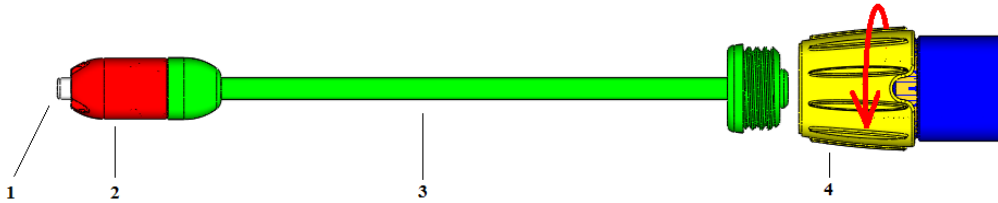

Figure 7
3. Then press vertically on the Multi Taps handle until the activators (1, Figure 7) moves, thereby opening the valves Figure 5 A.
The dispense unit consists of 4 main parts, see Figure 7: Valve piston (1), Valve Seat (2) Pipe (3) and connector part (4). In order to separate Part 4, from the Multi Tap turn 4 counterclockwise:
Daily cleaning can be done by removing the pipe from the connector unit and separating the pipe from the valve (see fig. 7, 8, 9 and 10).